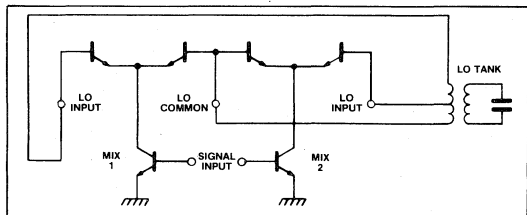

Fig.6 Local oscillator drive
- 2. RF signal path.** This method has the advantage that greater isolation may be achieved from the signal to the local oscillator - see Fig.6.